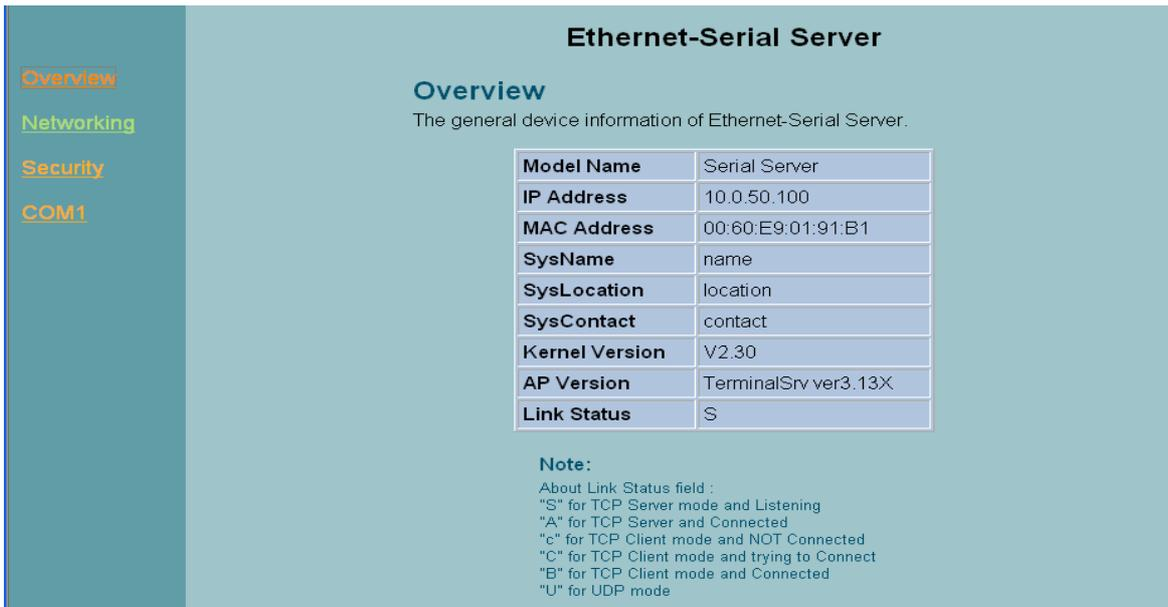

Figure 3.18 Overview
3. The following overview page appears.(ref Figure 3.18)